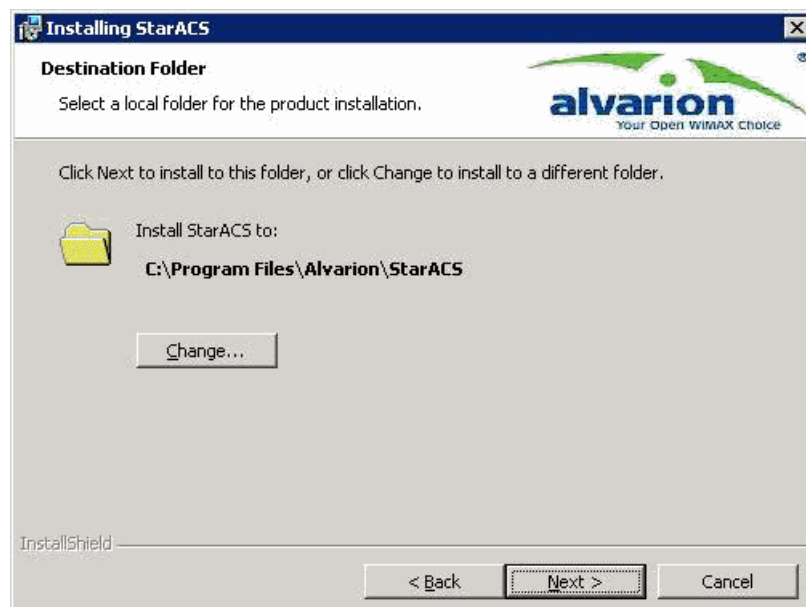

Figure 3: Destination Folder
- 3 Destination Folder – click Change to select another folder. Click Next (Figure 3).